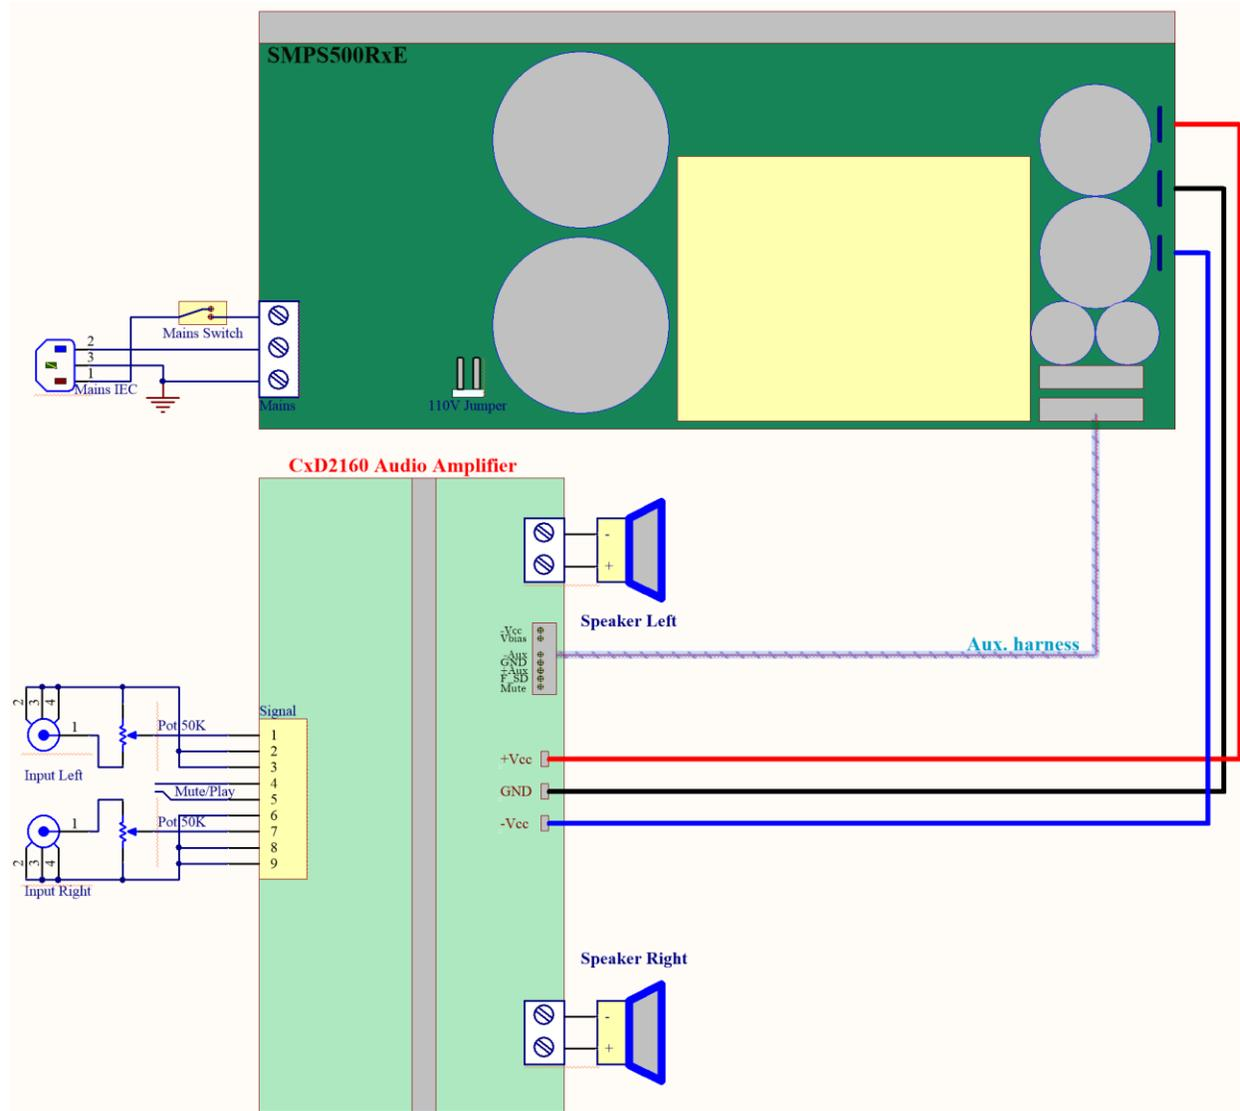

Figure3: CxD2160 Amplifier Module & SMPS500RxE Interconnection using unbalanced RCA connectors
Figure3 shows the interconnection schematic between CxD2160 Amplifier Module and SMPS500RxE board. In the same way, any other RxE series SMPS can be used. **Figure3** also shows a different input signal wiring configuration, using unbalanced input RCA Connectors and no potentiometer. The configuration without potentiometer must be used only when a preamplifier with volume control and free pop/click noise precede the amplifier in the signal chain. It is not recommended to use a mobile device, phone or tablet or even a desktop computer or a laptop with the configuration without potentiometer because all of these devices suffer from transients bursts which exceed the maximum limit for the CxD2160 Amplifier Module amplitude of the input signal. It is very important to remember, to not connect or disconnect the Signal Input or the speaker output wiring or connectors while the amplifier is powered On. Any input or output wiring must be connected or disconnected only after the amplifier is powered off and the power cable is disconnected from mains wall plug. Failing to respect this simple rule might lead to damage of the amplifier or the signal source equipment.
2. Unbalanced input using RCA Connectors without potentiometer, explained in the description of **Figure3**.